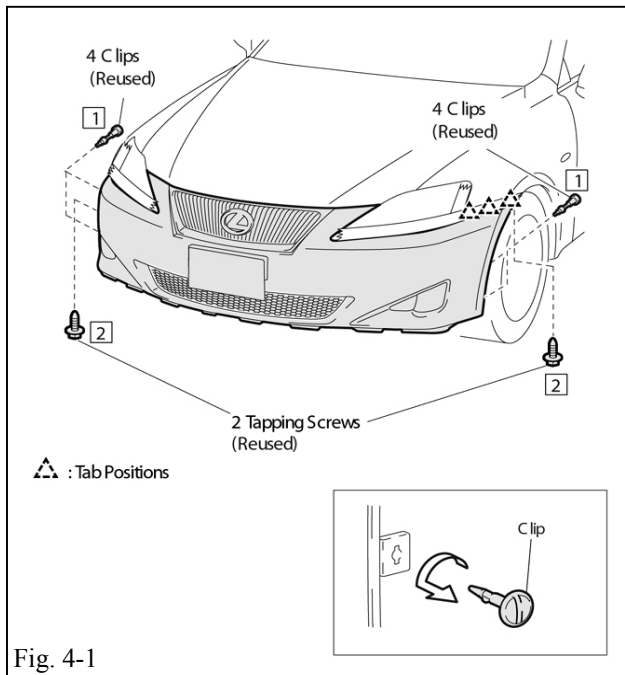

Fig. 4-1
- (a) Remove the four clips from the arch and two tapping screws in the order of [1] and [2] as shown. (Fig. 4-1)